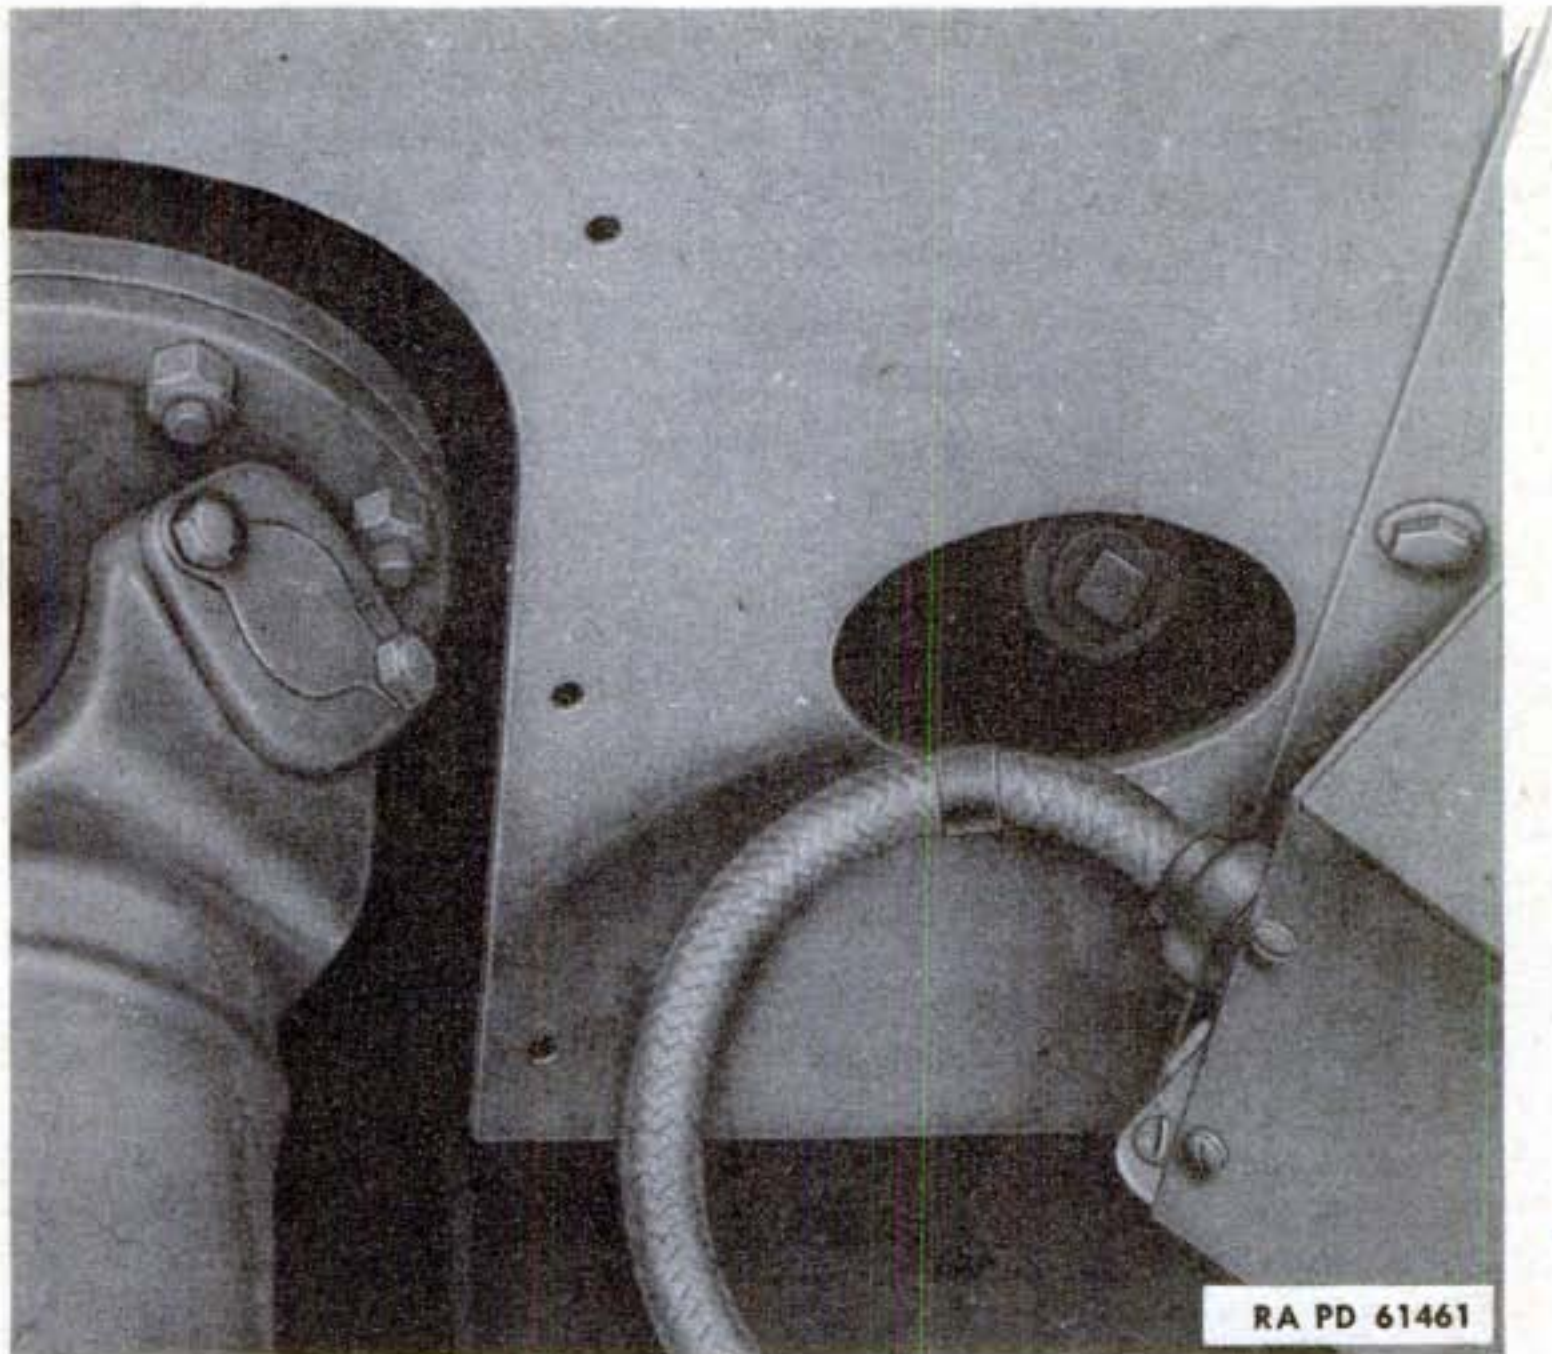

Figure 88—Transfer Gear Unit Filler Plug
b. **To Check Oil Level in Transfer Gear Unit.** Raise hinged door over rear universal joint. Examine transfer gear case for oil leaks. Remove plug in filler elbow (fig. 88). Add oil as necessary to
e. To Refill Transfer Gear Unit. Remove filler plug and pour $2\frac{1}{2}$ quarts of SAE 30 engine oil into filler elbow. Oil level must be visible in elbow (fig. 88). Install and tighten plug. Lower the hinged door.